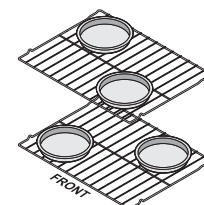

Figure 15: Pan spacing using multiple racks
- When baking cakes using 2 Glide racks, place cookware on positions 2 and 6 and position cookware allowing 2-4 inches (5-10cm) of space between the food items to ensure proper circulation.(Figure 15)